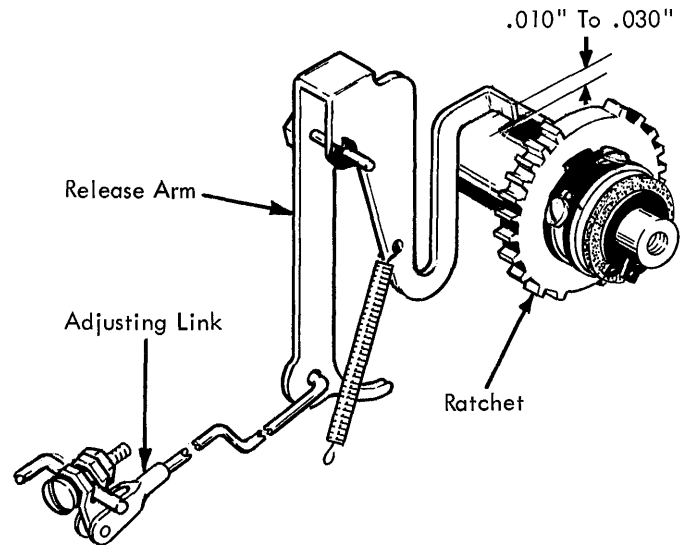

Figure 70. Shift Release Mechanism
5. **Shift Release** - Adjust the shift release link (Fig. 70). With the shift keylever bottomed, the shift release arm shall clear the shift clutch ratchet stop by $.010''$ to $.030''$. A balance between the two releasing points insures the proper adjustment.
NOTE: The shift bellcrank (Fig. 70) attached to the right end of the bail should be set prior to making the link adjustment. For proper leverage the bellcrank should operate with same over-center travel in both directions.